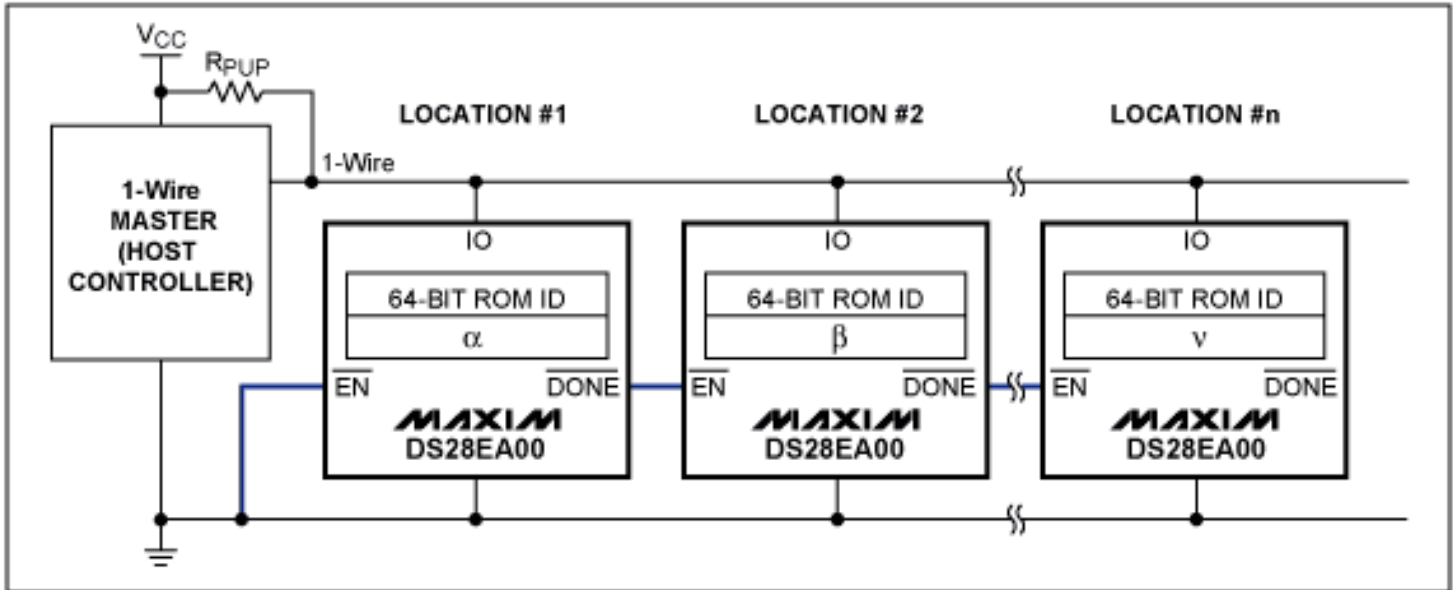

Figure 3. The DS28EA00 is shown in a typical 1-Wire network employing the chain function.
Item a) is "by-design" system knowledge that comes from the physical layout of the 1-Wire network wiring. Item b) is typically the unknown set of information, which is easily discovered using the chain-function communication. This chain function (**Figure 3**) uses two pins, an input (active-low EN) to enable a device to respond during the discovery, and an output (active-low DONE) to inform the next device in the chain that the discovery of the previous device is done. The active-low DONE signal connects to the active-low EN input of the next device. The active-low EN input of the first device in the chain is hardwired to GND. The connections to operate the chain function are shown as thick, blue lines. Aside from the active-low EN and active-low DONE pins, sequence discovery requires a new network function command, *Conditional Read ROM*. This command reports a device's ROM ID only if certain conditions (explained below) are met. *Read ROM*, in contrast, causes all devices in a network to transmit their ROM IDs at the same time. The DS28EA00 is the first device to implement and support this new chain function (as shown in Figure 3).
**Precondition** A master controls a network as shown in Figure 3. All devices support the chain function. To discover the sequence of devices in the chain, i.e., the number of locations and for each location the device's ROM ID (also known as the Registration Number), the master performs the following procedure.